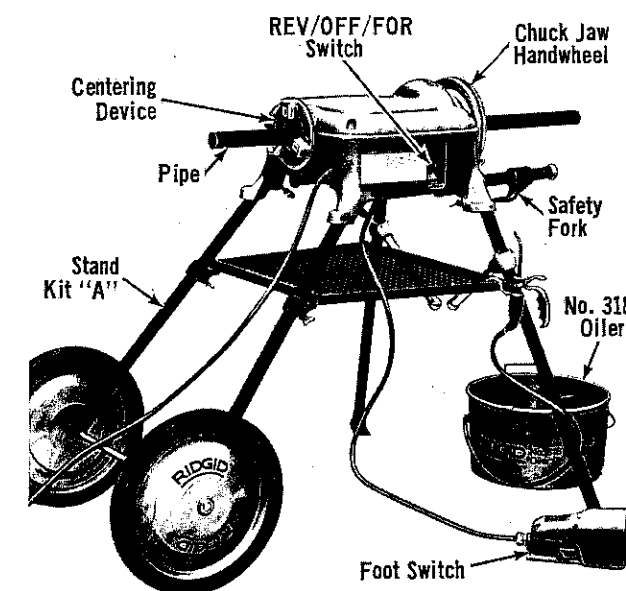

Figure 4. Power Drive with Pipe Installed, Stand, and No. 318 Oiler.
Correct operating position for cutting, threading and reaming is to stand on switch side of the Power Drive with left foot operating Foot Switch. (Fig. 4).
Installing Pipe in Power Drive (Fig. 4)
4. With Power Cord plugged in, turn REV/OFF/FOR Switch to FOR (forward) position (Fig. 4).
5. Place foot on Foot Switch (Fig. 4) to operate machine.
2. Place No. 318 Oiler (Fig. 4) under Threader and apply RIDGID Thread Cutting Oil on pipe end.
3. Turn REV/OFF/FOR Switch to FOR (forward) position (Fig. 4).
9. Turn REV/OFF/FOR Switch to REV (reverse) position (Fig. 4) and back off Threader by stepping on Foot Switch.
10. Release Foot Switch (Fig. 4) and turn REV/OFF/FOR Switch to OFF position.
1. Turn REV/OFF/FOR Switch to FOR (forward) position (Fig. 4).
Correct operating position for cutting, threading and reaming is to stand on the switch side of the Power Drive with left foot operating Foot Switch (Fig. 4).
3. Turn Power Drive REV/OFF/FOR Switch to FOR (forward) position (Fig. 4).
7. Turn REV/OFF/FOR Switch (Fig. 4) to REV (reverse position.)